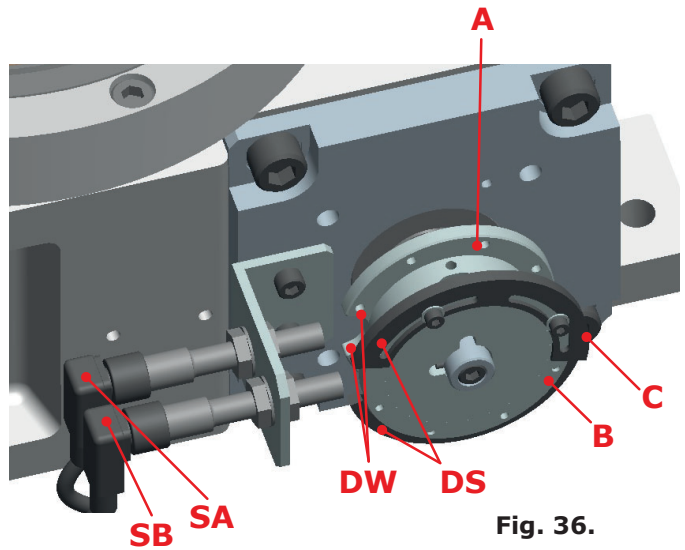
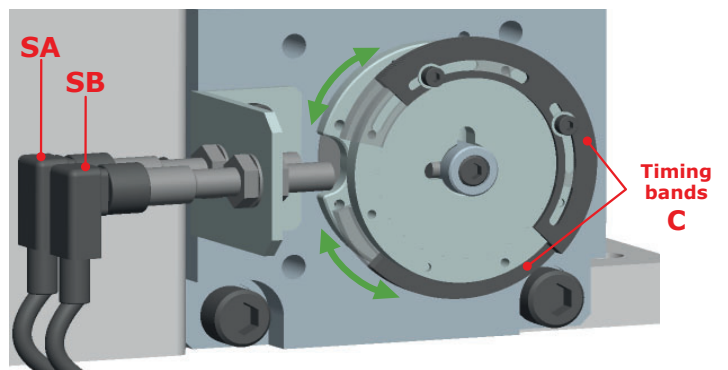

Fig. 36.
Fig. 37.
- The signal to stop the motor is made by way of two phase cams A & B and two proximity sensors (PNP n.o.) designated as SA and SB (Fig. 36).
- The second phase cam, noted as phase cam B is adjustable: the gap DS must be adjusted by rotating the timing bands C to be the same width or wider than the rounded cut-out in phase cam A (DW).
- The motor speed decrease (Diag. 1 - Pos. 2) and comes to a stop (Diag. 1 - Pos. 3) in the dwell period (DW).
- When the motor has stopped, the output of sensor SA must be low (Diag. 1 - Pos. 4) otherwise the unit has not properly stopped in the dwell phase position (Diag. 2 - Pos. 3). If this happens, the timing bands C of phase cam B must be adjusted (make gap wider) as shown in Fig. 37 so that the stop signal is detected earlier and again check that the motor is decelerated quickly enough so that it stops in the dwell period. The proximity sensor SA will show a low signal when the motor has stopped.